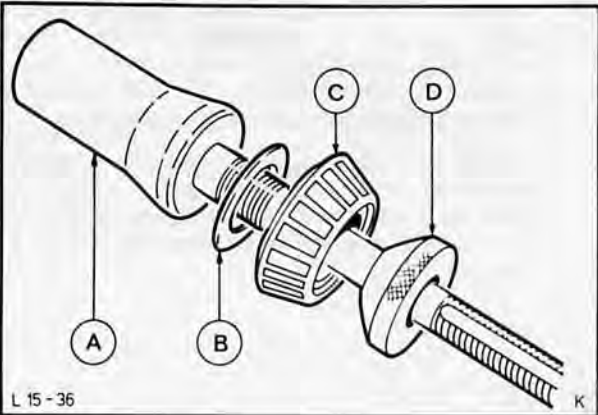

Fig. 116. Master pinion 15-020
23. Remove master pinion and detach taper roller bearing with shim, Fig. 116. Select new shim according to measurement. With a micrometer measure up shim corresponding to value found, (see Parts Catalogue for shim part numbers).